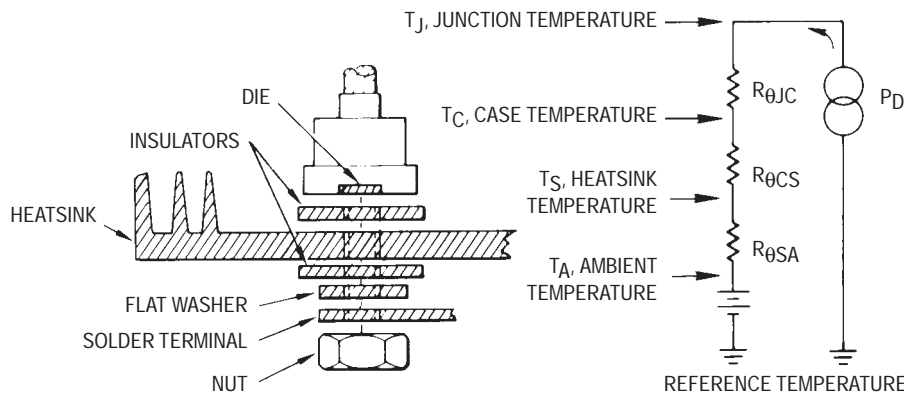

Figure A1. Basic Thermal Resistance Model Showing Thermal to Electrical Analogy for a Semiconductor
An analogy between Equation (2) and Ohm's Law is often made to form models of heat flow. Note that T could be thought of as a voltage thermal resistance corresponds to electrical resistance (R); and, power (q) is analogous to current (I). This gives rise to a basic thermal resistance model for a semiconductor as indicated by Figure A1.